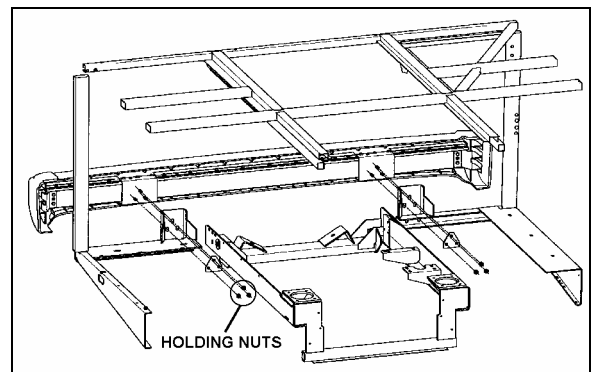

FIGURE 12: REAR BUMPER ASSEMBLY 18501
1. Remove 6 nuts (3 on each side) holding bumper assembly to vehicle and remove bumper (Fig. 12).